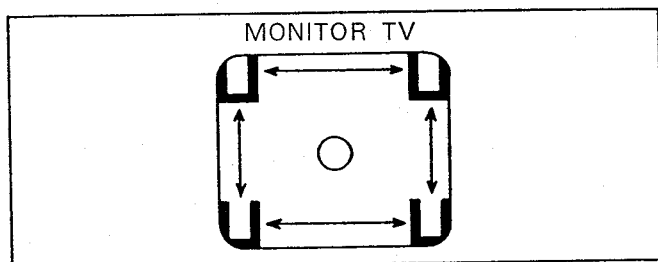

Fig. C21
10. High Speed Shutter "ON" and "OFF" both mode, confirm that the monitored picture does not contain the Blooming even if the camera moves as shown in Fig.C21.
11. High Speed Shutter "ON" and "OFF" both mode, confirm that the monitored picture does not contain the Blooming even if the camera moves as shown in Fig.C21.